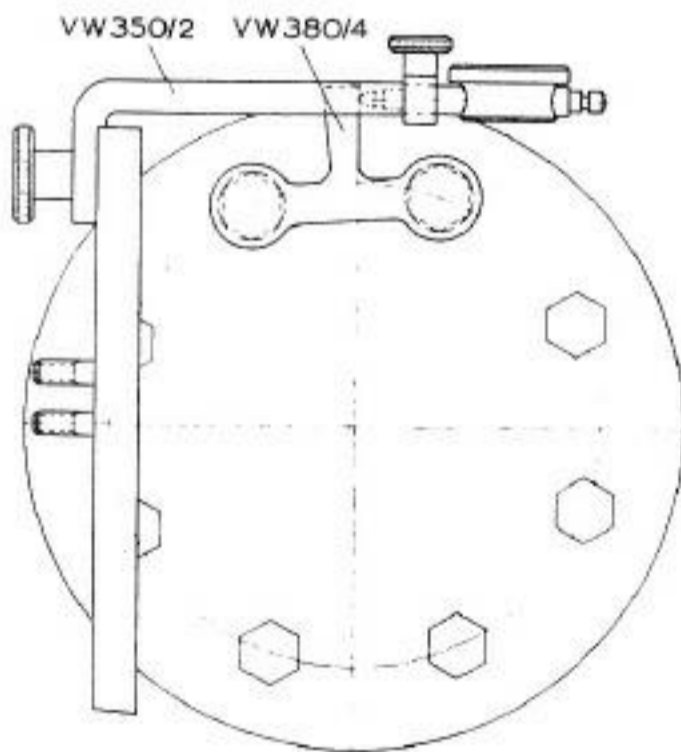

Fig. 11-34. Ring gear rotation being measured. The indicator pin contacts the plastic bracket slipped over the ring gear bolts.
3. Remove the two ring gear bolts at the top of the gear and install the T-shaped bracket shown in Fig. 11-34.